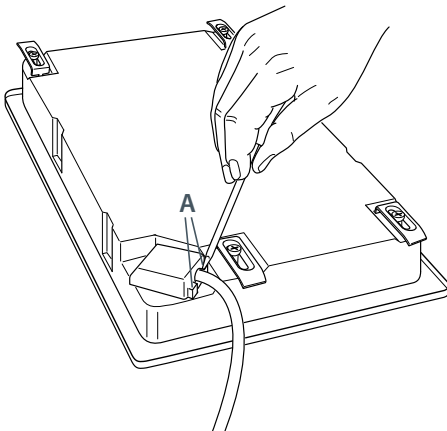

Fig. 12 Unhooking the terminal block cover
- Power supply cable and plug are NOT supplied with the appliance. A suitable cable has to be connected as shown in Figs. 12 - 14 (CE302 models) or Figs. 15-17 (CE604 models).
- 1 Turn the cooktop over, place it on a soft surface, and unhook the terminal block cover by inserting a screwdriver into the two hooks **A** (Fig. 12).